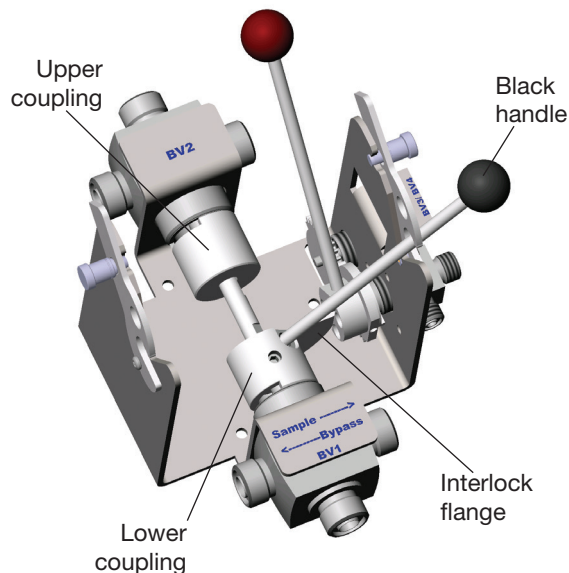

Fig. 2
2. Configurations 3 and 4: Remove the interlock flange. Fig. 2.
3. Remove the black handle shaft by turning it counterclockwise. Fig. 2.
4. Loosen the two set screws on the upper coupling. Fig. 2.
5. Loosen the set screw on the lower coupling. Fig. 2.